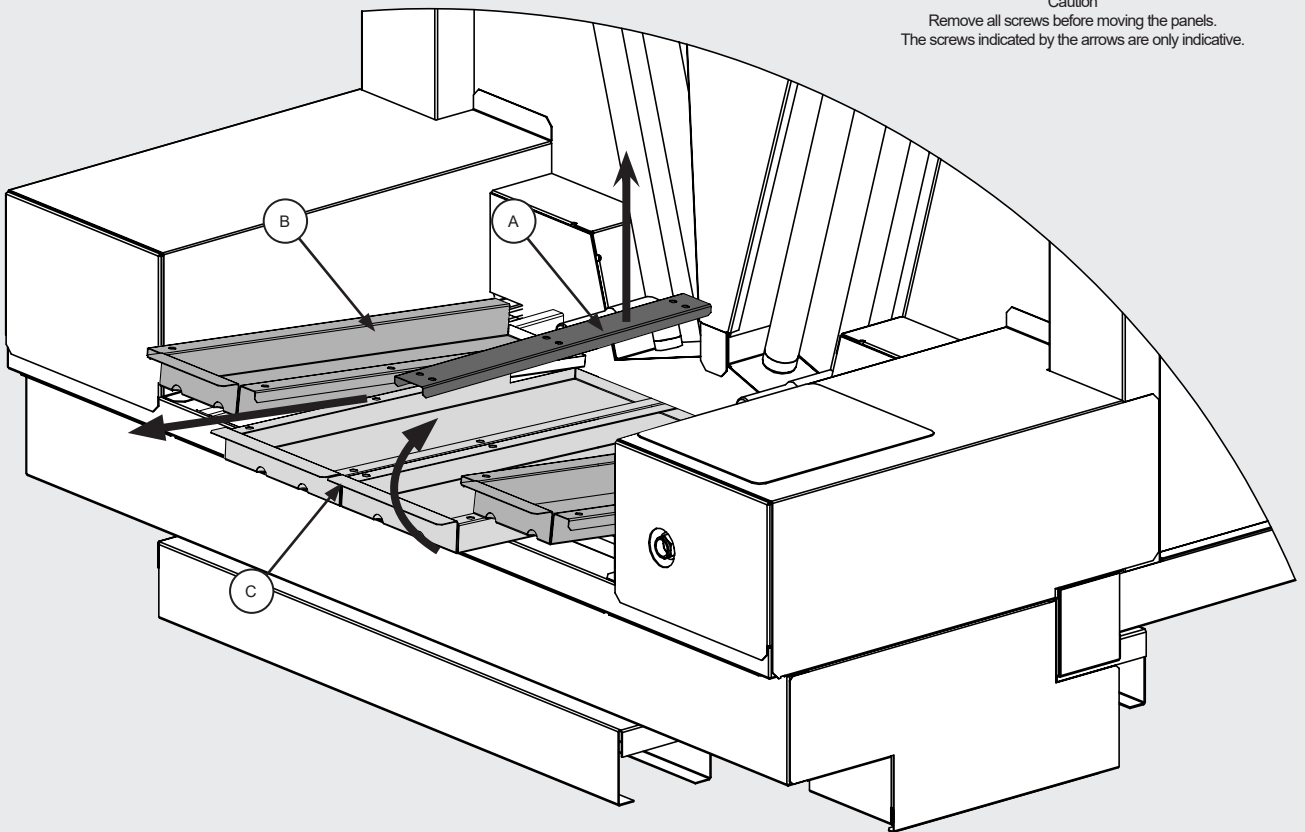

Figure 25
12.13.5 Stand at the front of the model and unscrew the screws (a) securing the central covers protecting the external adiabatic circuit, see Figure 25.
12.14.7 Wait until the emptying of the adiabatic circuit has been completed. As soon as the model is switched off, all normally open solenoid valves (see point 2.9) open and the circuit drains through the connection (SC), see Figure 25.
open solenoid valves (see point 2.9) open and the circuit drains through the connection (SC), see Figure 25.